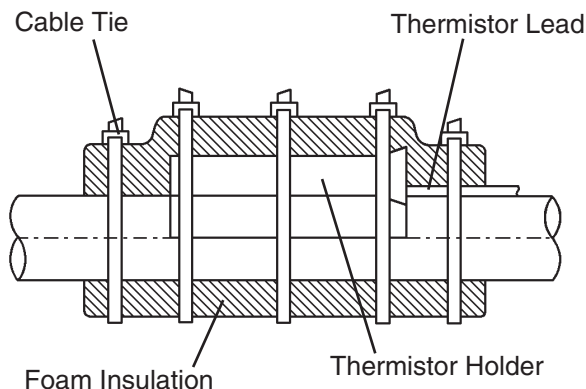

Fig. 12
- 5) Remove the plastic cable ties, foam insulation, thermistor holder, and thermistor. See Fig. 12.